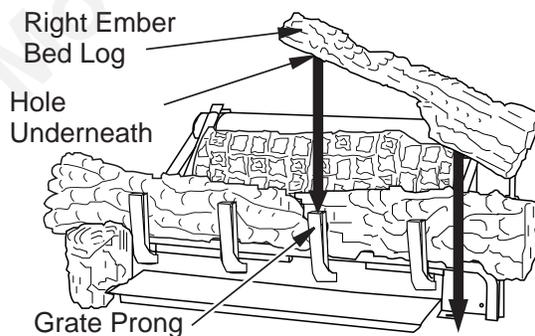

Figure 29 - Installing Right Ember Bed Log
- The right ember bed log 24" & 30" (D-047) has a hole in the log that sets on the grate finger and the other end rest on the fireplace floor, place log as shown in **Figure 29**. The right ember bed logs for 18" (D-072) has a groove on the side that sets on the ember bed pan and the back of the log needs to rest against the front of the base. Make sure the flame from the ember pan does not touch the ember bed log. The back side of this log needs to rest against the front of the base assembly, make sure the flame from the ember pan does not touch the ember bed log.